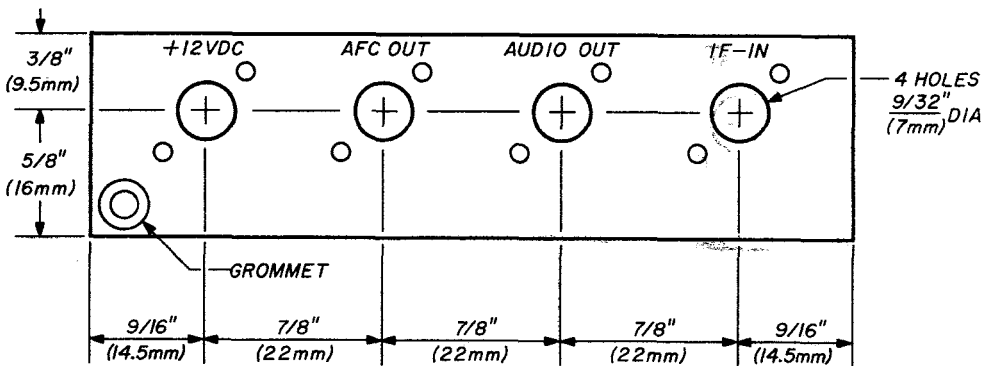

Figure 9-8.
3. Drill four $\frac{9}{32}$ inch (7 mm) diameter holes in rear of chassis as shown in *Figure 9-8*. Disconnect leads to old connectors and remove.